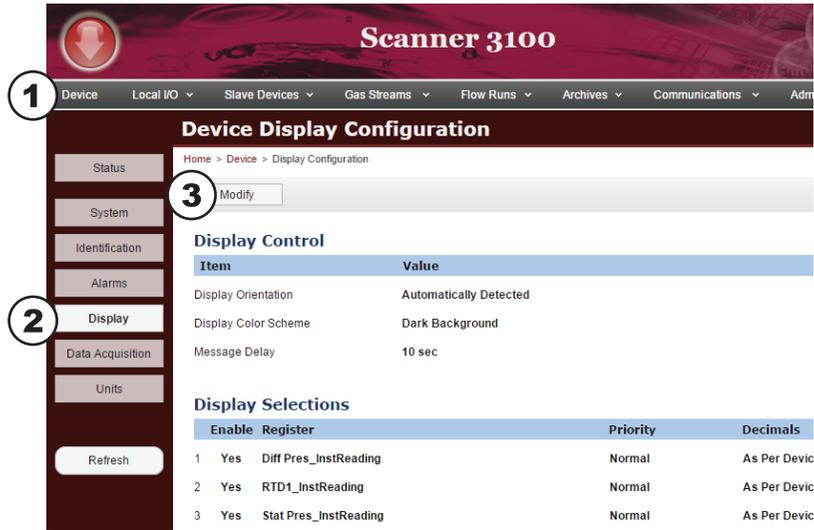

Figure 1.5—Common navigation sequence
**MENU BAR (1)>**
**SCREEN LINK (2)>**
**MODIFY BUTTON (3) WHERE APPLICABLE>**
**Example:** To access the configuration settings for the device display, click **DEVICE>DISPLAY>MODIFY** (Figure 1.5).